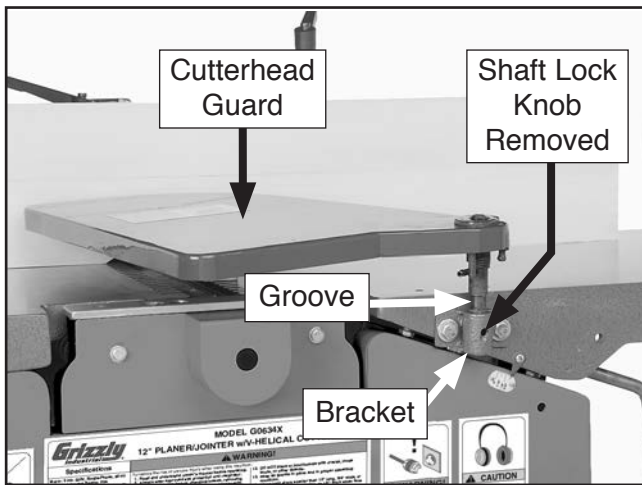

Figure 18. Installing cutterhead guard.
1. Remove shaft lock knob and insert cutterhead guard shaft into bracket hole, as shown in **Figure 18**.
3. Thread lock knob into bracket so threads fit into shaft groove (see **Figure 18**), and secure guard into place. Adjust guard and lock knob as needed so guard fully covers cutterhead.